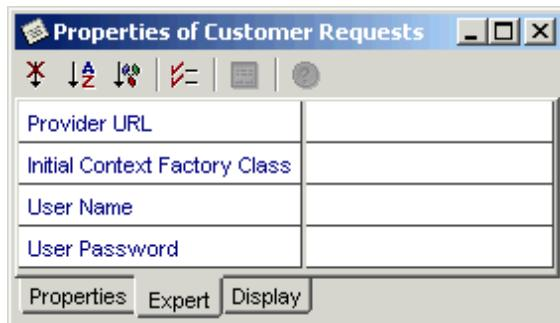

Figure 6-14 Simple Input Proxy Properties
3. Set the Binding Path Name property of the Simple Input Proxy to the location in the namespace where the proxy should be bound. See Figure 6-14.
Click on a Simple Input Proxy to bring up the proxy's properties. These properties are shown in Figure 6-14.